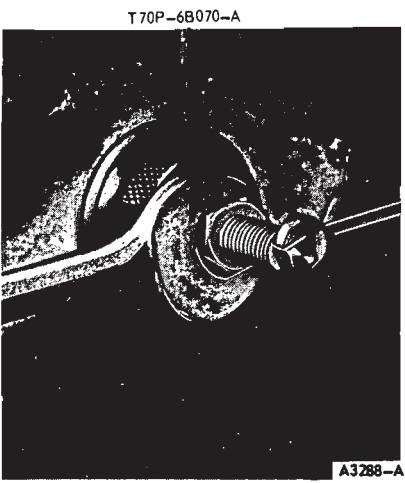

FIG. 22—Installing Front Crankshaft Seal
- Coat a new front oil seal with Lubriplate or equivalent and place it onto the front oil seal alignment and installation sleeve as shown in Fig. 22. Place the sleeve and seal onto the end of the crankshaft and push it toward the engine until the seal starts into the front cover.
8. Install the front crankshaft seal into the cylinder front cover with the tool shown in Fig. 22.